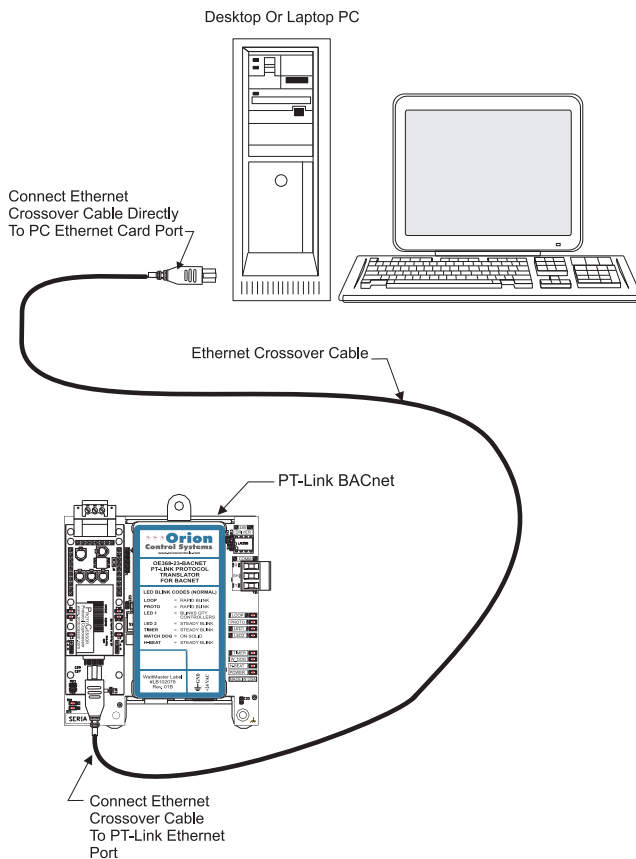

Figure 3: Connecting With Crossover Cable
4. Connect your PT-Link II to your computer using an Ethernet connection (**Figures 3 & 4**).
- 1.) You may connect the PT-Link II directly to your PC by using a crossover cable (by others) as shown. **See Figure 3** for details.